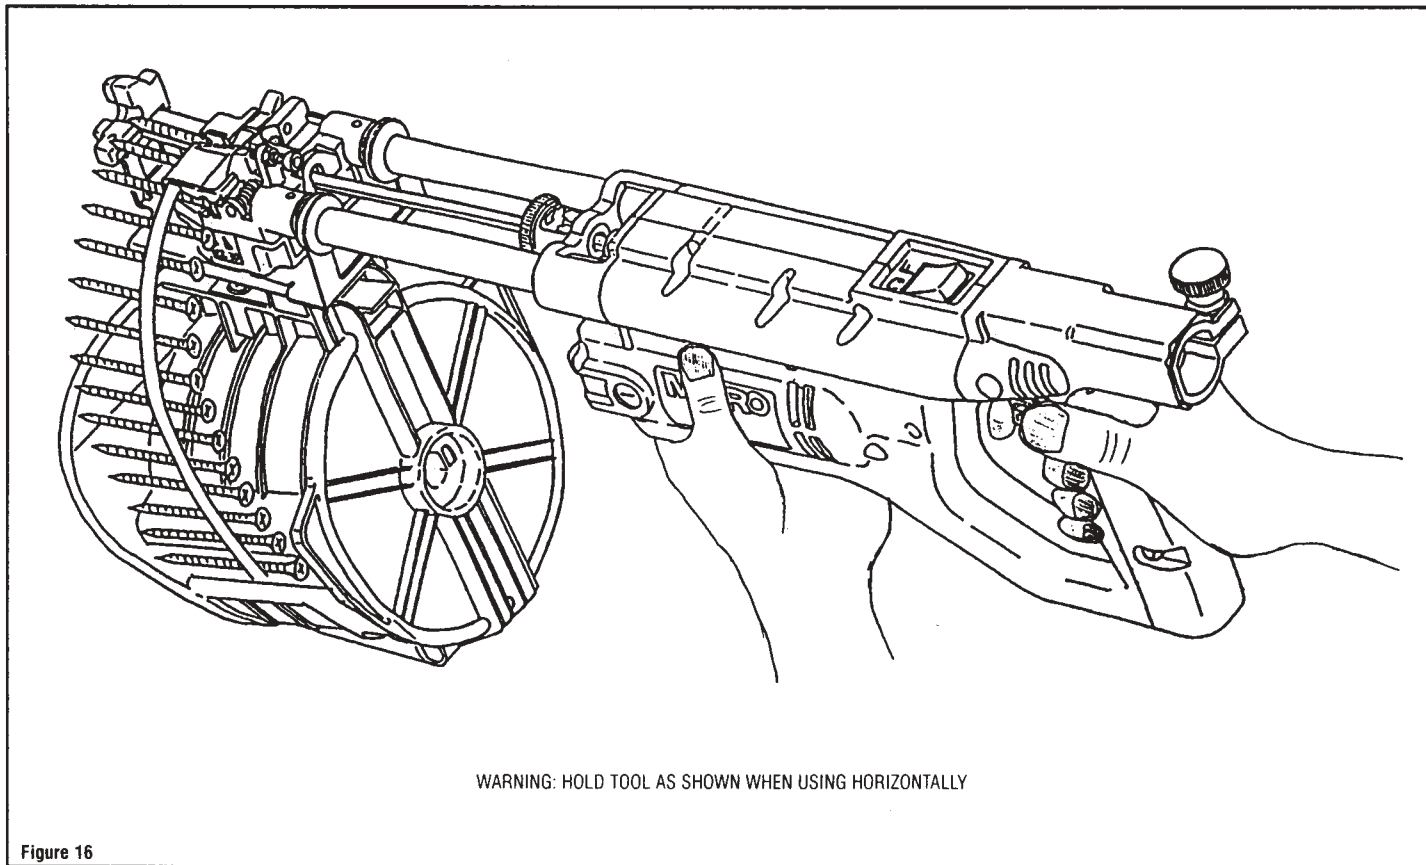

Figure 16
**WARNING:** Whenever driving screws into surfaces which might contain hidden live electrical wires be sure to hold the tool only by its insulated grasping surface and not to touch any metal components of the tool which may become live. For horizontal applications figure 16 shows the proper way to hold the tool.